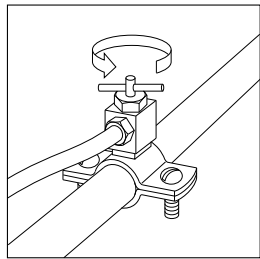
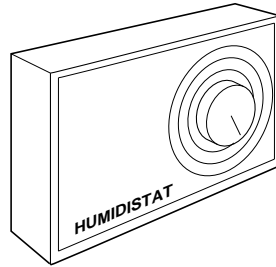

Fig. 4 — Saddle Valve
Fig. 5
1. Open the saddle valve on the water supply line. (See Fig. 4.) Set humidistat to the desired relative humidity. (See Fig. 5 and Table 2.)
2. Turn off the humidifier's water supply. (See Fig. 4.)